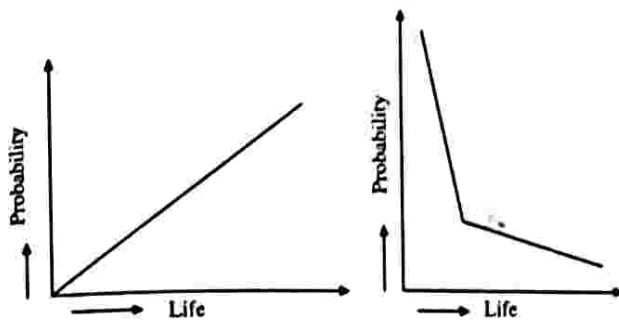

Figure 4.6
- i) **Progressive Failure:** In this condition the failure of equipment increases with increase in its life. For example, electric bulbs, tubes etc. Figure 4.6.